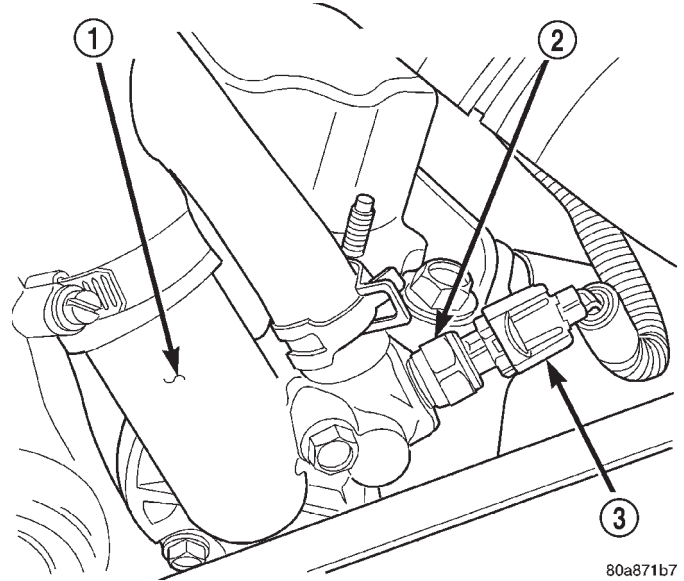

Fig. 10 Engine Coolant Temperature Sensor—Typical
(21) Verify wire harness connector is firmly connected to engine coolant temperature sensor (Fig. 10).
(22) Raise and support vehicle.